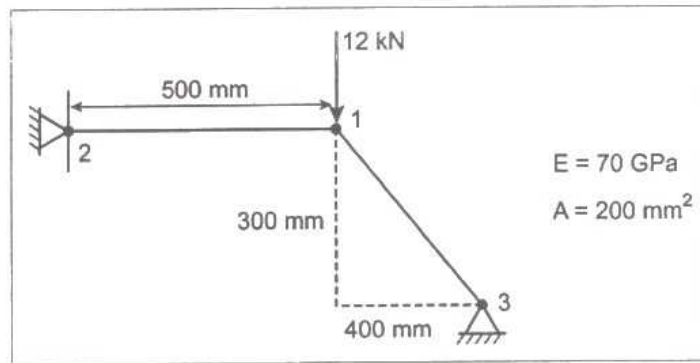

Figure 3:
14. For the two bar truss shown in figure 3, determine the displacements of node 1 & stress element in 1-3 (6)